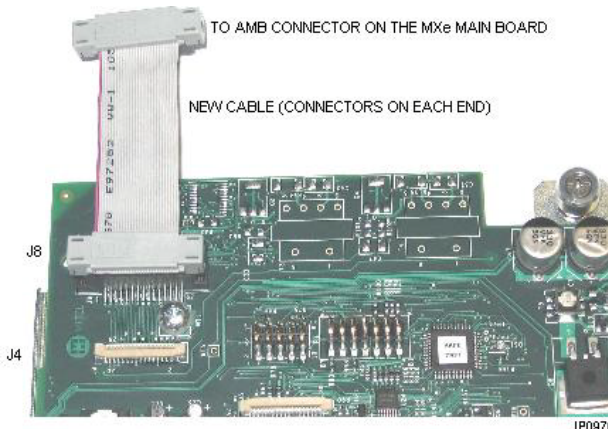

Figure 44: AMB with new cable for MXe Controller
1. Remove the narrow flex cable on the AMB (J4) by flipping up the clip on the connectors at each end of the cable (prior to Rel 7.1 version) or remove the ribbon cable on the AMB (J8) (see Figure 44).